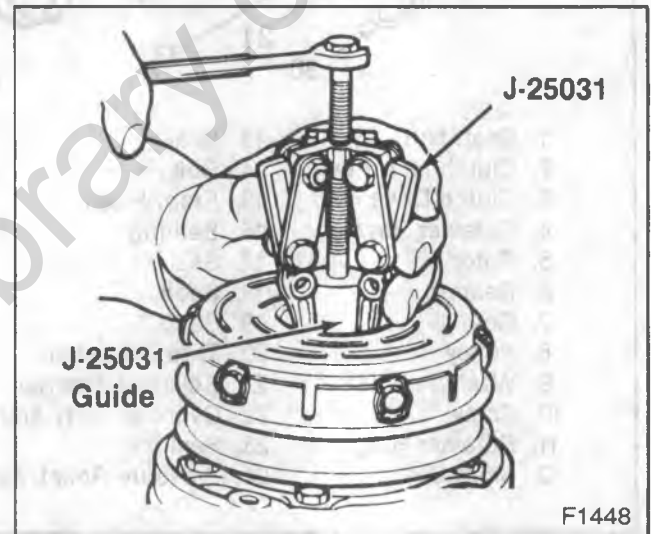

Figure 97—Removing the Clutch Rotor Assembly
- Place J 25031 down into the rotor until the puller legs engage the recessed edge of the rotor hub (figure 97).